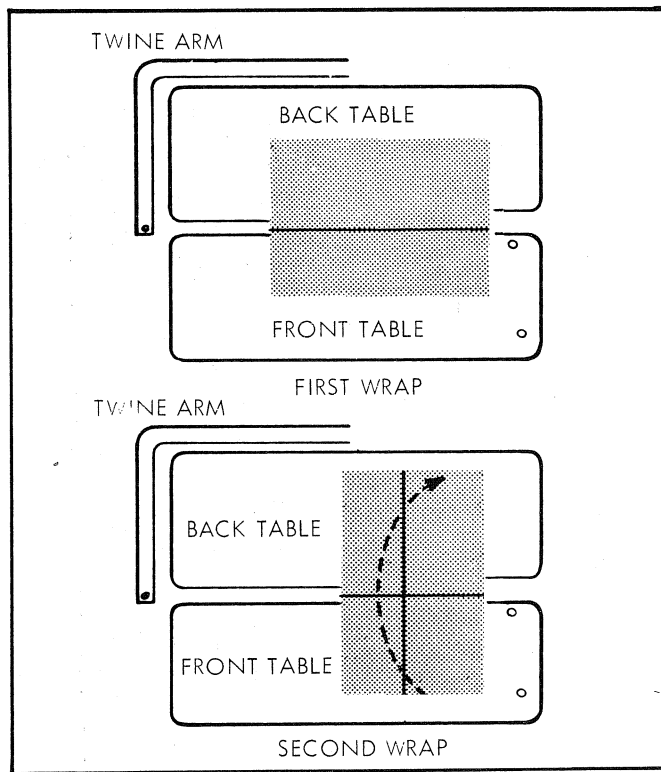

Figure 4 Positioning Package for Cross-Tie
3. Hold ends of package between thumbs and forefingers of both hands and position package on tying machine table so that right side of package is butted against standard or notch in front table (figure 4) and positioned over gap between front and back tables.
5. Turn package 90 degrees IN CLOCKWISE DIRECTION (figure 4) in tying machine.